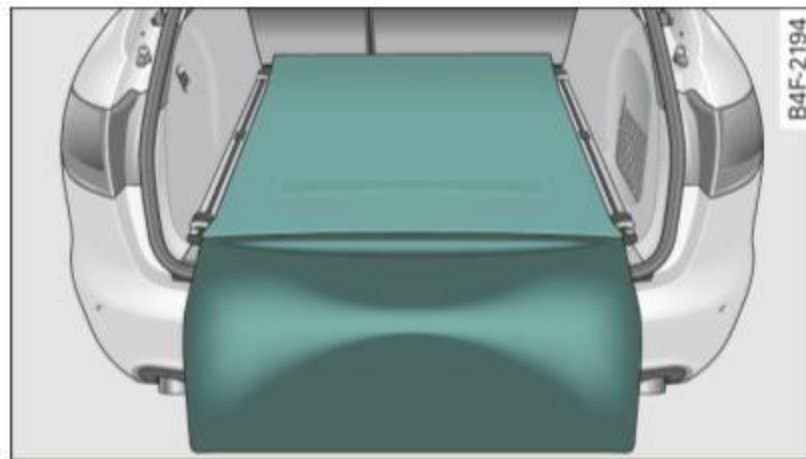

Fig. 88 Luggage compartment carpeting when loading: folded out over the bumper
- To load, pull the folded part of the luggage compartment carpeting over the bumper ⇒ *fig. 88*.